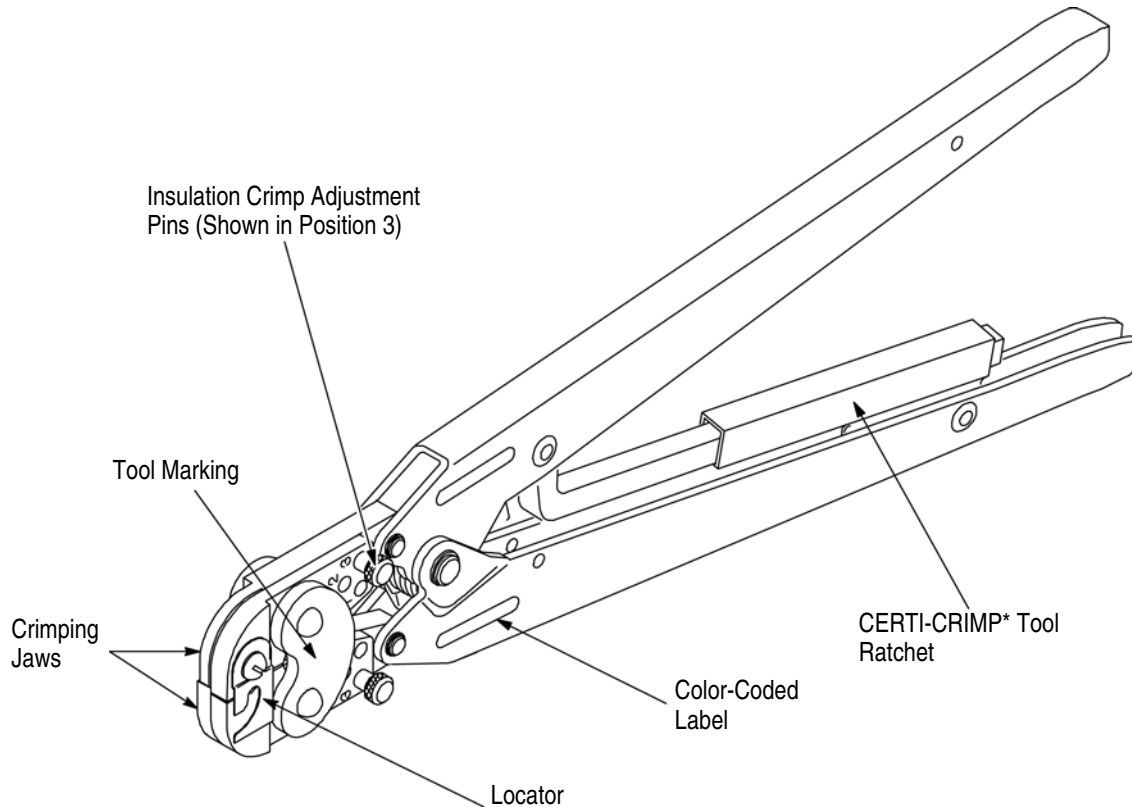

Figure 1
TE Connectivity Hand Crimping Tools 45160 and 45575-1 (shown in Figure 1) are used to crimp PLASTI-GRIP\* butt splices (listed in Figure 2) onto stranded or solid wire sizes 22 through 14 AWG.
**2. DESCRIPTION** (Figure 1)